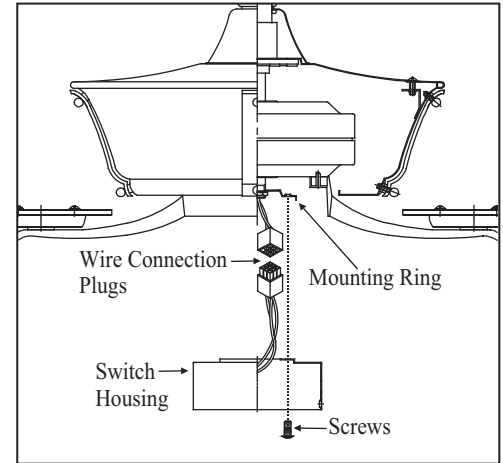

Figure 19
3. Place the key holes on the switch housing over the 2 screws previously loosened from the mounting ring, turn switch housing until it locks in place at the narrow section of the key holes. Secure by tightening the 2 screws previously loosened and the one previously removed. (Fig. 19)